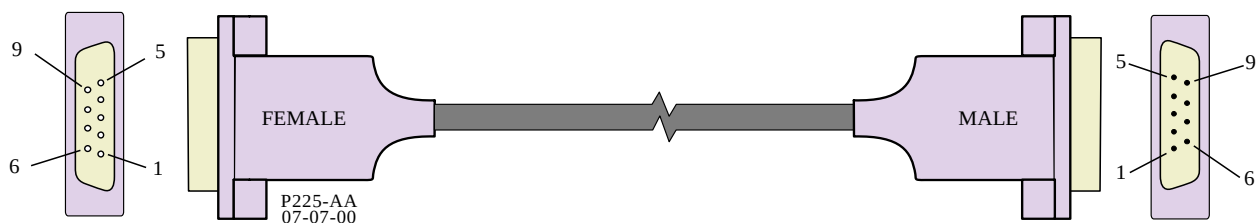

**Figure 1. Craft Cable**
4. Assemble the craft cable according to Figure 1 using the pin outs listed Table A. Your terminal may require a DB-9 or a DB-25 connection. The table lists the pins for a DB-9 to DB-9 cable or for a DB-9 to DB-25 cable.